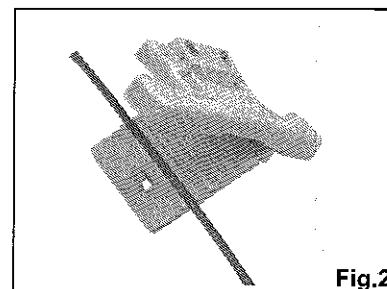

Fig.2
4. Place the buffer tube into the correct channel as determined in Step 2. (Fig.2)